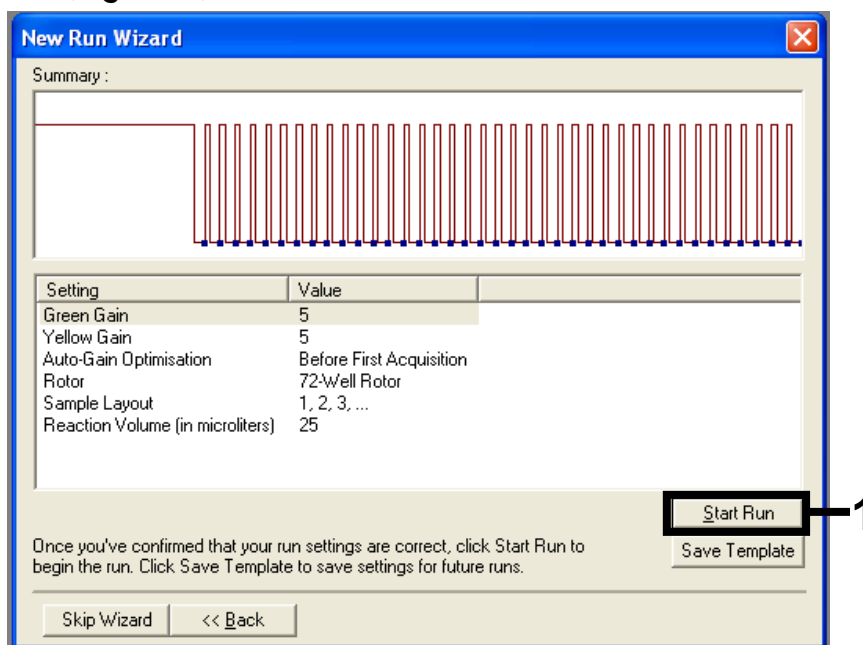

Figure 6. The “New Run Wizard” dialog box. 1 = “Start Run” button.
5. Check the summary and click “Start Run” to save the run file and start the run (Figure 6).